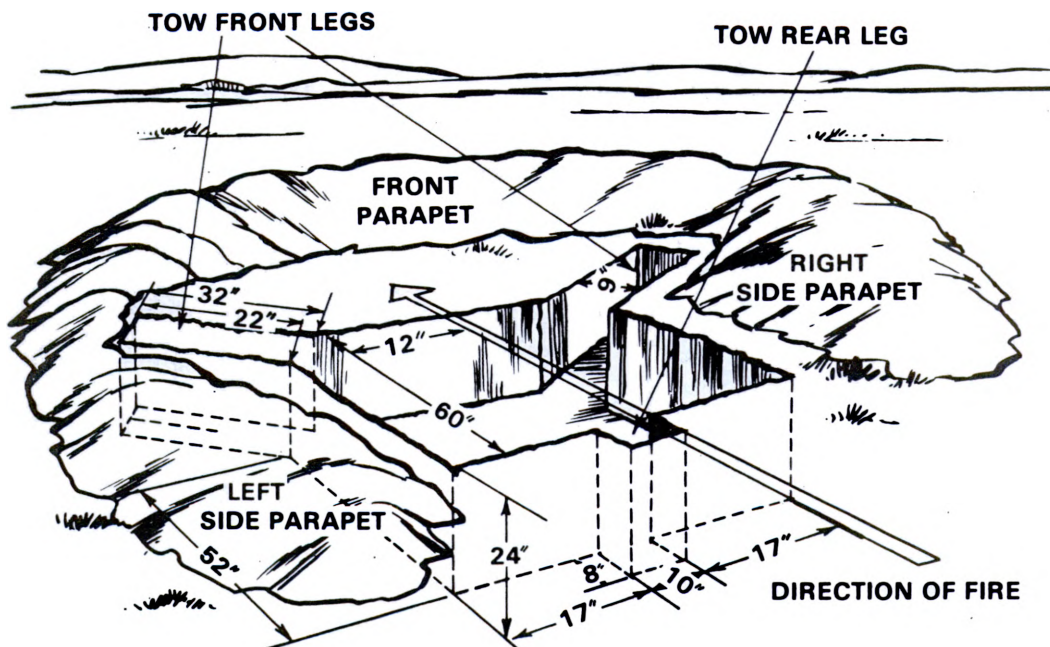

Figure 1
- b. Dig the weapon's position first and add overhead protection for the crew and missiles as time allows. Dig a position 24 inches deep, as in figure 1.